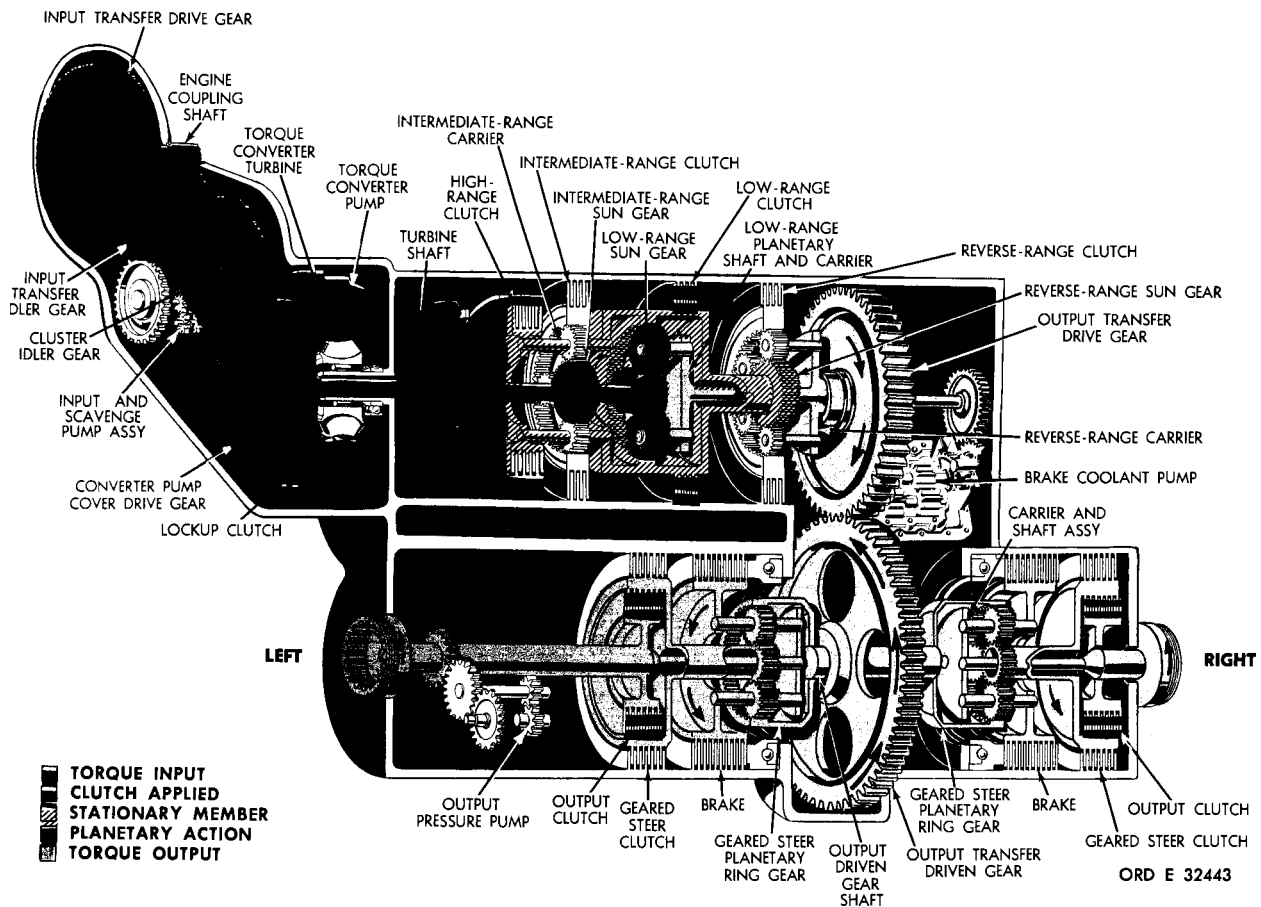

Figure 24. Second-gear torque path, lockup operation
48. TORQUE PATH - SECOND GEAR, LOCKUP OPERATION (fig. 24)